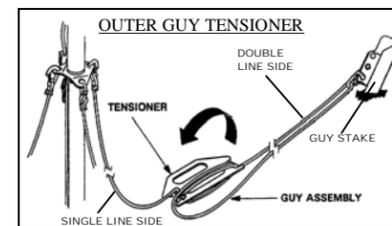
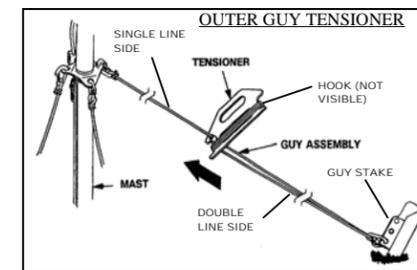

Figure 10
Figure 11
25. Remove the slack in one of the outer guy tensioners by winding the trailing end of the guy line around the tensioner. See Fig. 10.
26. Tension the line by sliding the tensioner toward the mast and lock it by placing the guy tensioner hook over the double guy lines. See Fig. 11.
2. Release the four outer guy tensioners to slacken the upper guy lines. (Ref. Fig. 10 and Fig. 11)